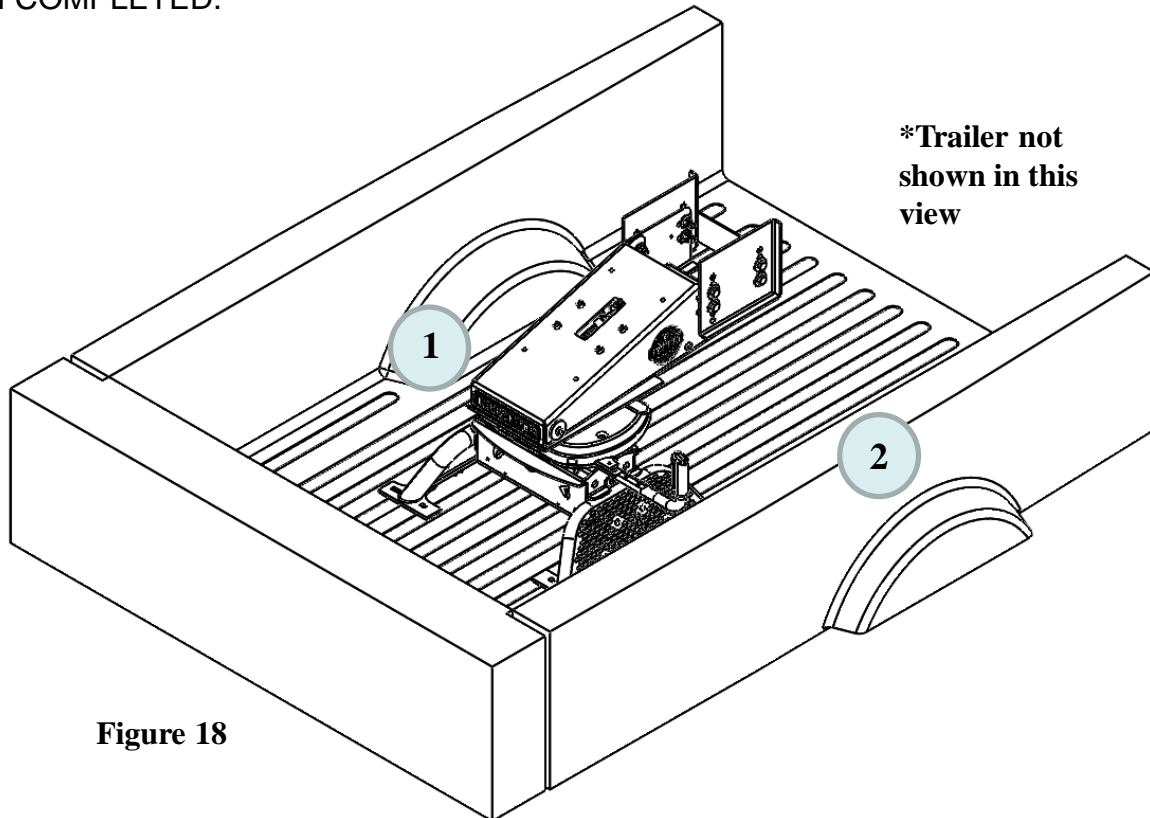

Figure 18
1. One person should be in the truck in order to fill the air valve (shown at position 1 of figure 18).
2. The second person should be standing outside of the truck watching the Air Inflation Visual Indicator. (Shown at Position 2 of figure 18).